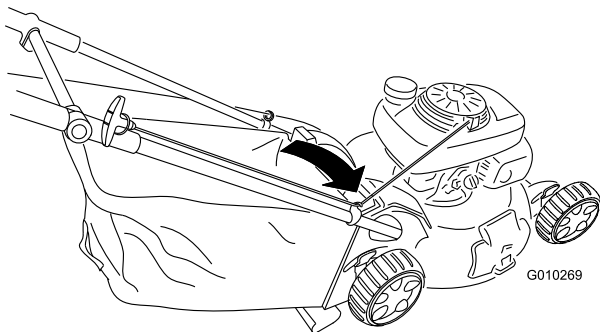

Figure 34
1. Route the starter rope around the lower rope guide (Figure 34).